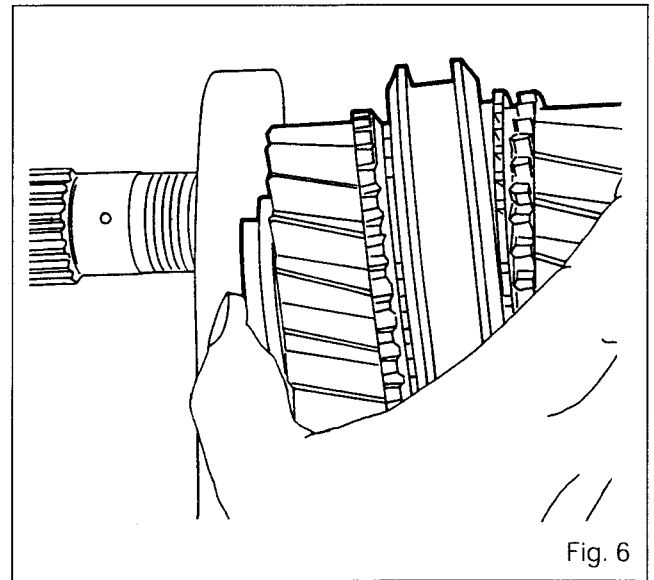

Fig. 6
21. Using a press, fit the bearing cone (17) onto the shaft (69), (if it was removed).
22. Fit the retaining ring (70).
23. Increase the thickness of the shims (3) that were removed during disassembly so as to obtain an end play of between 0.10 and 0.15 maximum, in order to obtain an exact fit.
24. Fit the cups (2) and (16).
25. Reinstall the 1st - 2nd gears and synchromesh (11) with the bush (8).
26. Insert the shaft through the rear of the housing, while supporting the synchromesh/gear assembly (Fig. 6) and ensuring that the bush (8) is correctly positioned in the gear (14).